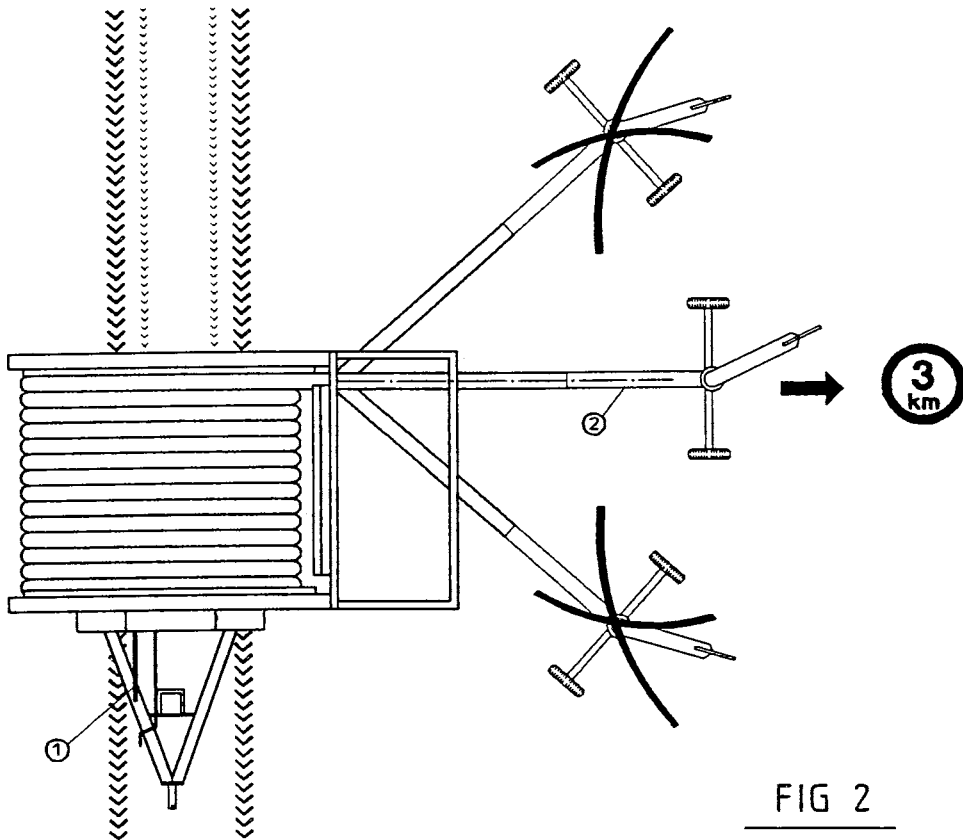

FIG 2
- * 1 Loosen the locking pawl by the cogwheel, (fig. 2, pos. 1).
- * 3 Lock the locking pawl, (fig. 2, pos. 1)
- * 6 Open the sluice valve on type 3-4-5 TT² under the gun carriage, (fig. 2, pos. 2)